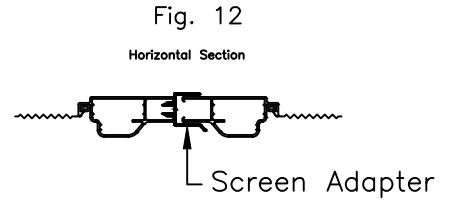

Fig. 12
- c) Configurations OXXO, XIX, OIX, and XIO require a screen adapter. Attach screen adapter shown in Fig. 12 as described in separate instruction that came with the screen.